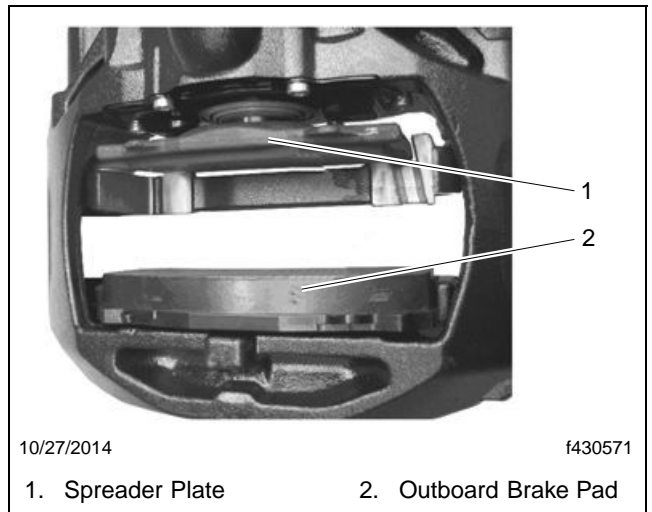
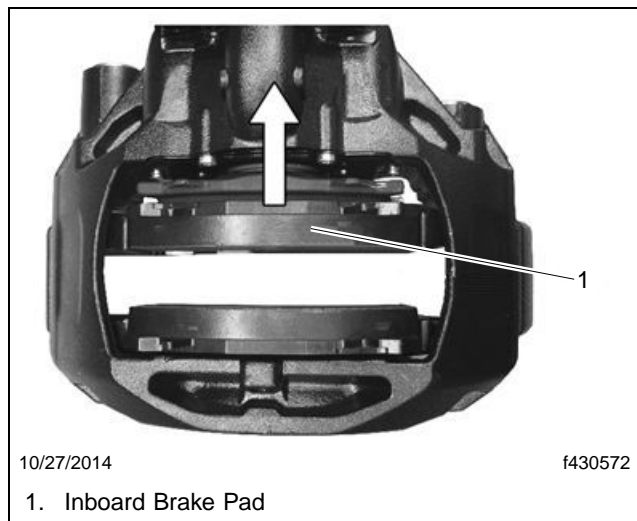

Fig. 9, Installing the Outboard Brake Pad
Fig. 10, Installing the Inboard Brake Pad
34. Install the new brake pads. See **Fig. 9** and **Fig. 10**.